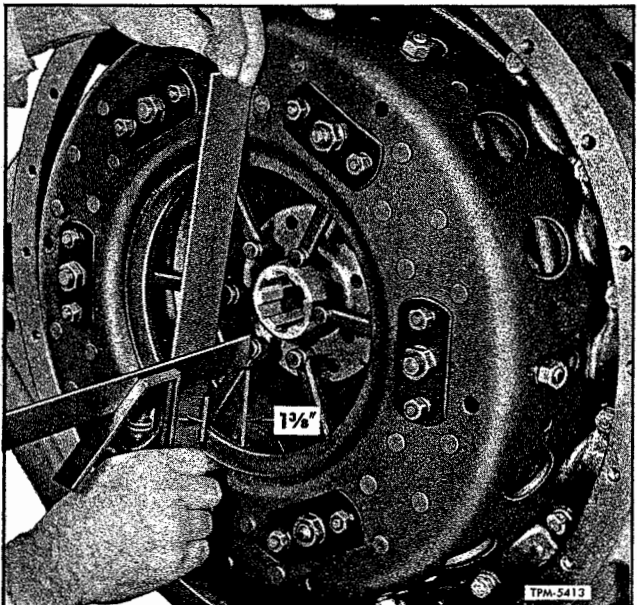

Figure 7—Checking Release Lever Position
4. Adjust yoke nuts (11) on yokes (10) so that contact button (14) of release lever (13) is 1-3/8" below face of clutch cover plate (25). Use straight edge and machinists square in manner illustrated in figure 7 when checking or making adjustment.